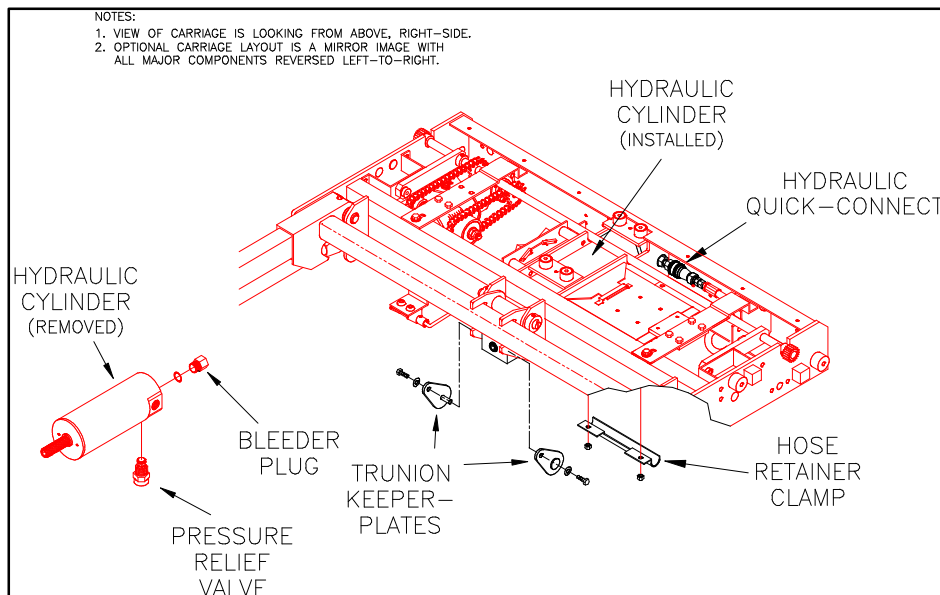

FIGURE 4-14: HYDRAULIC COMPONENTS
- 9) Refer to **Figure 4-14**. Move the traveling frame into the lift enclosure far enough to have clear access to the hydraulic quick-connect.